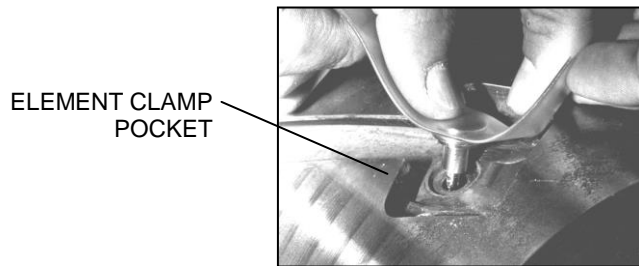

Fig. 8
7. Seat the air fitting with barb fitting into the counterbored hole. (Fig. 8)